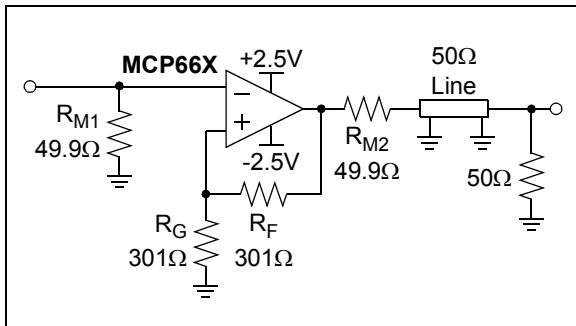

FIGURE 4-10: 50Ω Line Driver.
Differential gain (DG) and differential phase (DP) refer to the non-linear distortion produced by an NTSC or a phase-alternating line (PAL) video component. Table 1-2 and Figure 2-34 show the typical performance of the MCP661, configured as a gain of +2 amplifier (see Figure 4-10), when driving one back-matched video load (150Ω , for 75Ω cable). Microchip tests use a sine wave at NTSC's color sub-carrier frequency of 3.58 MHz, with a $0.286V_{P-P}$ magnitude. The DC input voltage is changed over a +0.7V range (positive video) or a -0.7V range (negative video).
Figure 4-10 shows the MCP661 driving a 50Ω line. The large output current (e.g., see Figure 2-18) makes it possible to drive a back-matched line (R_{M2} , the 50Ω line and the 50Ω load at the far end) to more than $\pm 2V$ (the load at the far end sees $\pm 1V$). It is worth mentioning that the 50Ω line and the 50Ω load at the far end together can be modeled as a simple 50Ω resistor to ground.